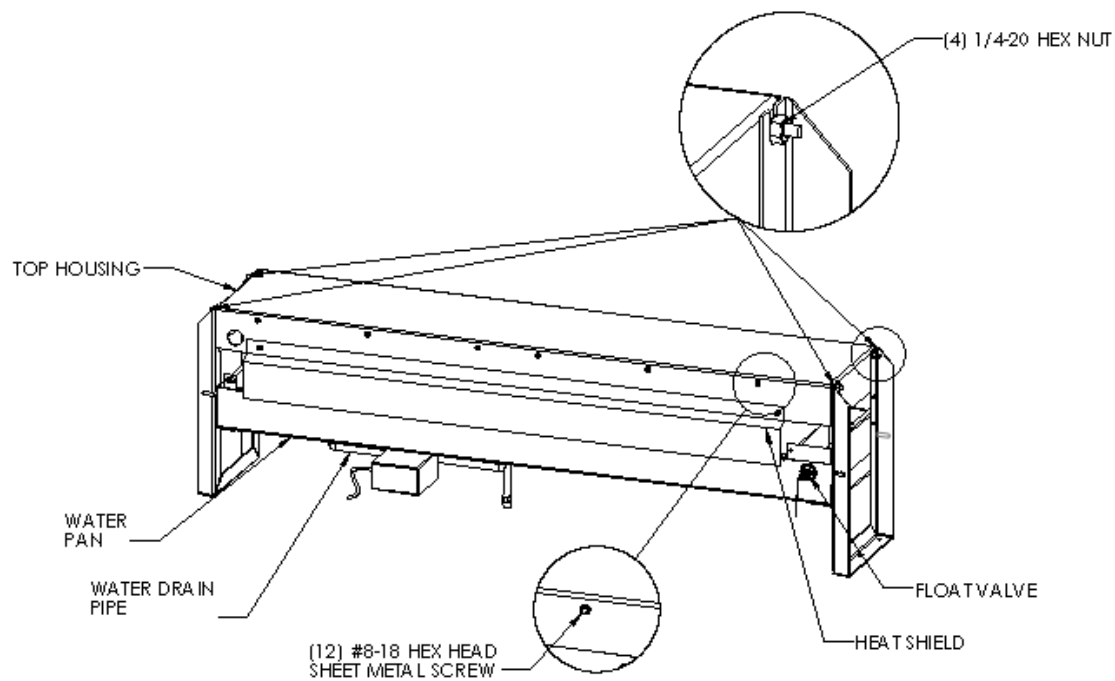

Figure 7. Infrared Humidifier Housing Assembly
- **(CAC AND CAA SYSTEM ONLY)** Remove 4 of the ¼-20 hex nut screws holding the lamp housing top cover (see Figure 7).
- Loosen only the #8-18 hex head sheet metal screws securing the deflector panel of the defected lamp to detach the IR lamp deflector panel from the housing top cover (see Figure 7. Infrared Humidifier Housing Assembly)